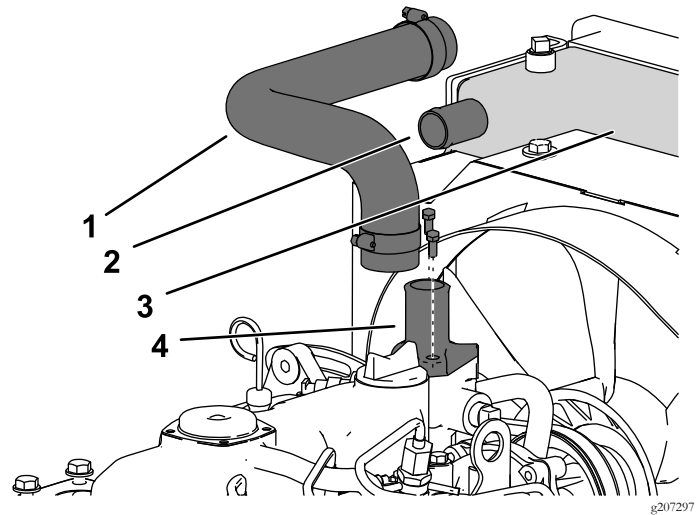

Figure 6
6. Remove the radiator hose from the machine (Figure 6).
7. Remove the 2 mounting bolts from the outlet on top of the engine (Figure 6).
3. Loosen the upper hose clamp and remove the hose from the outlet on the radiator (Figure 6).